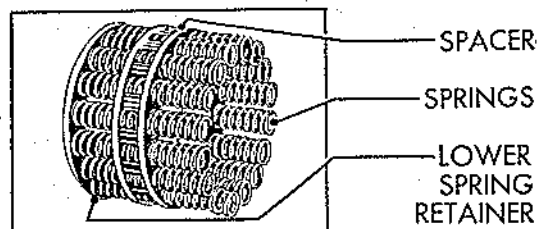

Figure 76
(4) Place the springs over the projections on the lower spring retainer and slide the spacer over the springs as shown in Fig. 76. The spacer should be halfway between the ends of the springs.